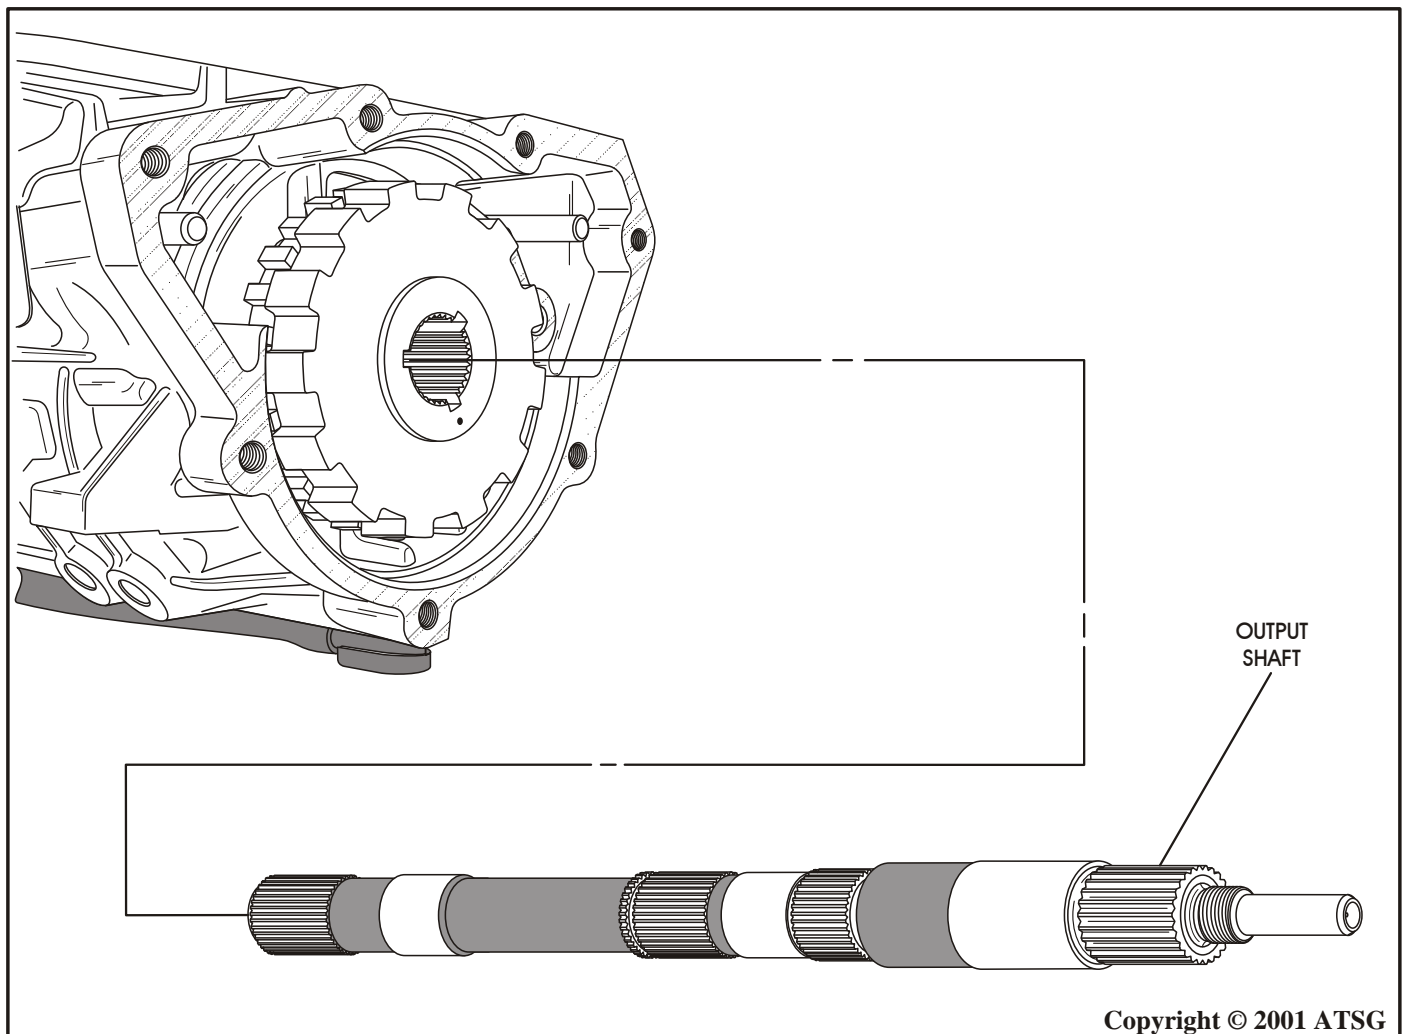

Figure 144
10. Install the output shaft into transmission in the direction shown in Figure 144, by rotating so that it engages in the parking gear splines and the rear planetary ring gear splines.